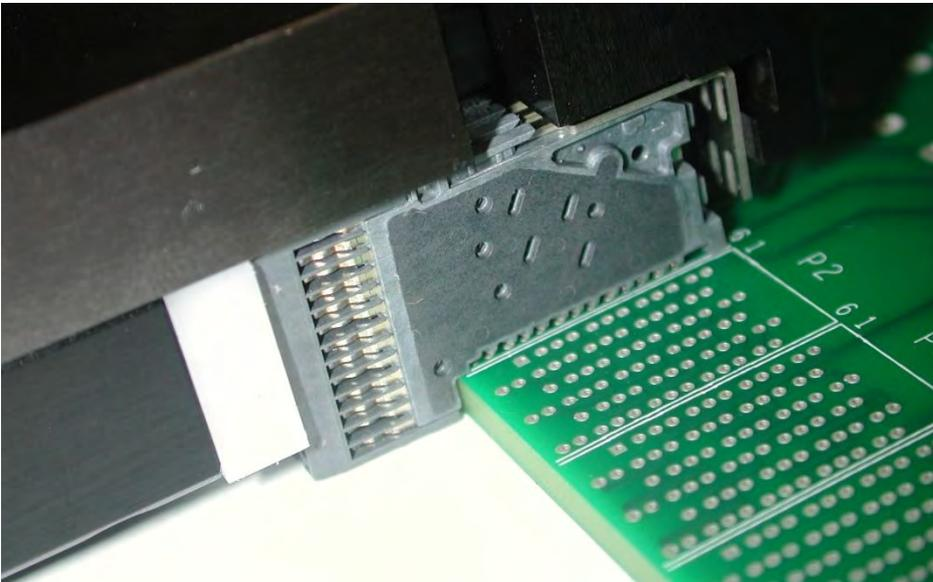

Figure 14: Installation tool with partially reinstalled stiffener
Step 10. Ensure the stiffener is in the seated position by verifying the alignment tabs on the back of the wafers protrude out the rear of the stiffener, see Figure 14.